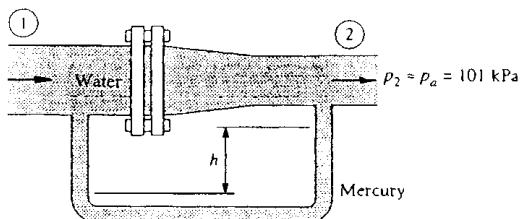

Fig. P3.54
- 3.54** For the pipe-flow reducing section of Fig. P3.54,  $D_1 = 8 \text{ cm}$ ,  $D_2 = 5 \text{ cm}$ , and  $p_2 = 1 \text{ atm}$ . All fluids are at  $20^\circ\text{C}$ . If  $V_1 = 5 \text{ m/s}$  and the manometer reading is  $h = 58 \text{ cm}$ , estimate the total horizontal force resisted by the flange bolts.